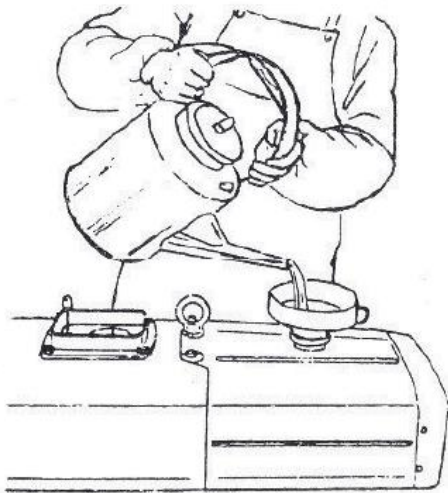

Fig. 3 Colocar combustível no tanque
- Open the fuel tank, place the fully filtered clean diesel (Fig. 3).